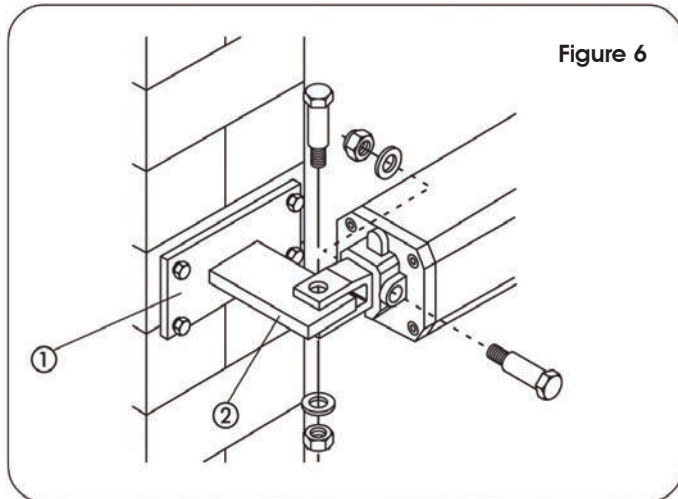

Figure 6
- For iron pillars, weld the rear attachment (Fig. 6, Ref. 2) directly to the pillars.
- B.) Use screws and expansion plugs to secure the rear attachment plate (Fig. 6, Ref. a) to the pillar. Then weld the rear attachment to the plate as shown in Figure 6.
- 2.) Secure the operator to the rear attachment with the supplied screws (Fig. 6).